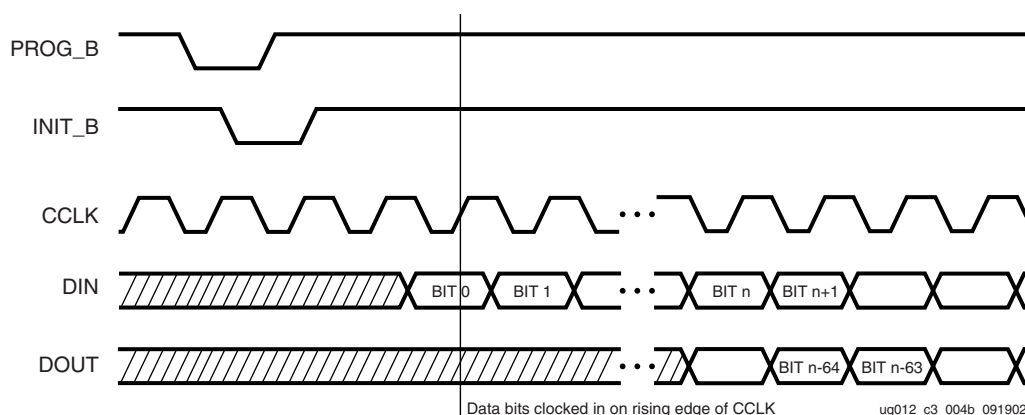

Figure 4-11: Serial Configuration Clocking Sequence
1. For Slave configurations, a free running CCLK can be used, as shown in Figure 4-11.